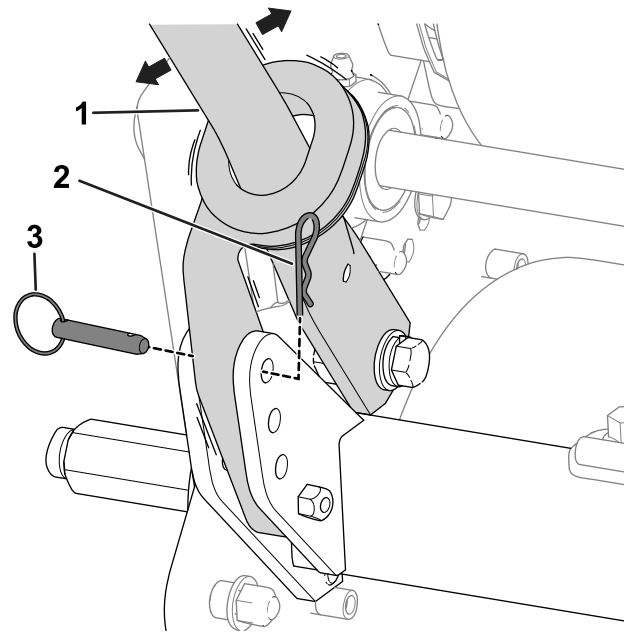

**Figure 5**
7. Secure the cables and wire harness to the handle with the cable ties (Figure 5).